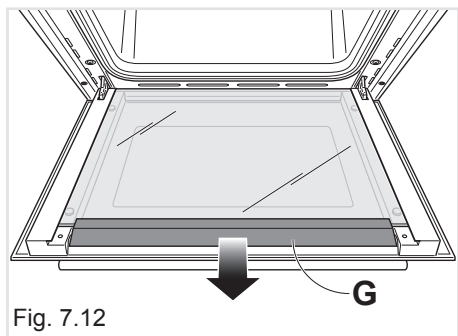

Fig. 7.12
- Gently remove the air deflector "G" at the top of the oven door (fig. 7.12).